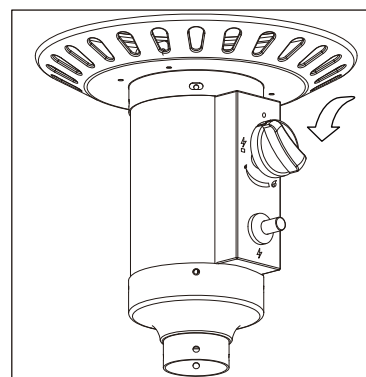

Figure 2
4. Push control knob in and rotate counter clockwise to “PILOT” ( ⚡ ) position (Figure 2).